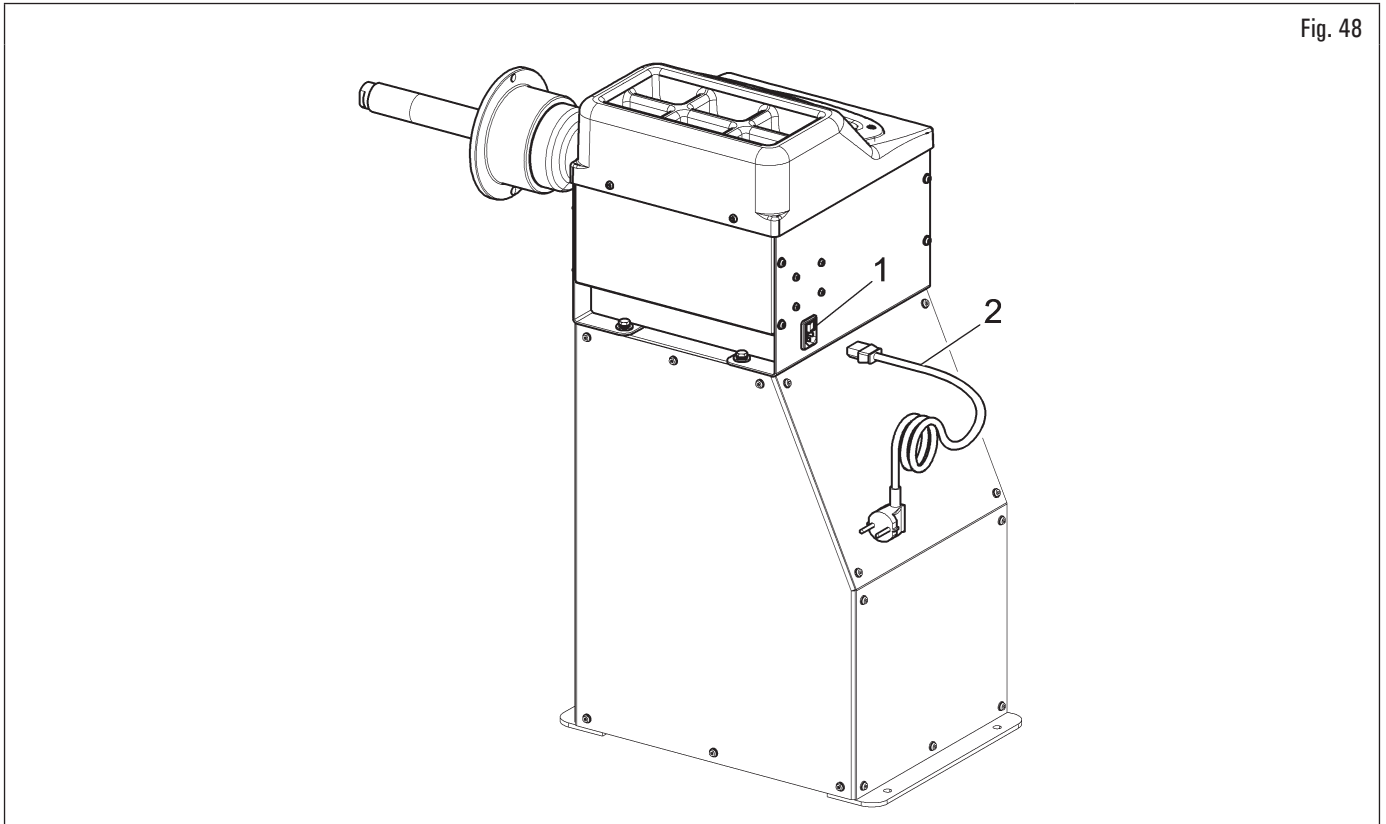

Fig. 48
- turn the switch (Fig. 48 ref. 1) to OFF (0);
- connect to the 230 V electric network the supply cable (Fig. 48 ref. 2) (supplied with the equipment).
Now power the equipment through the switch (Fig. 48 ref. 1) by setting it to ON (I).